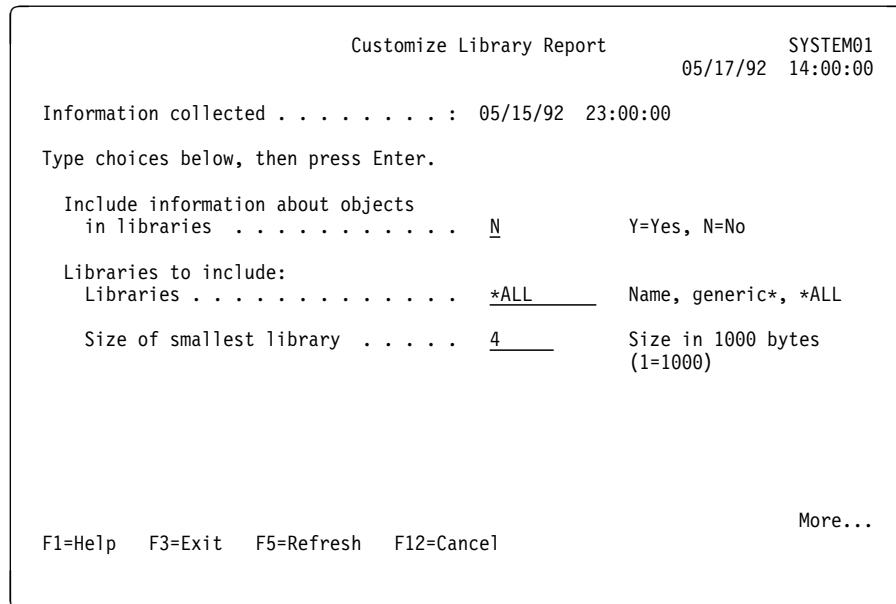

Figure 8-12. Customize Library Report Display
4. Press the Enter key to display more fields on the Customize Library Report display as shown in Figure 8-12.
4. Press the Enter key to display more fields on the Customize Library Report display as shown in Figure 8-12 on page 8-16.